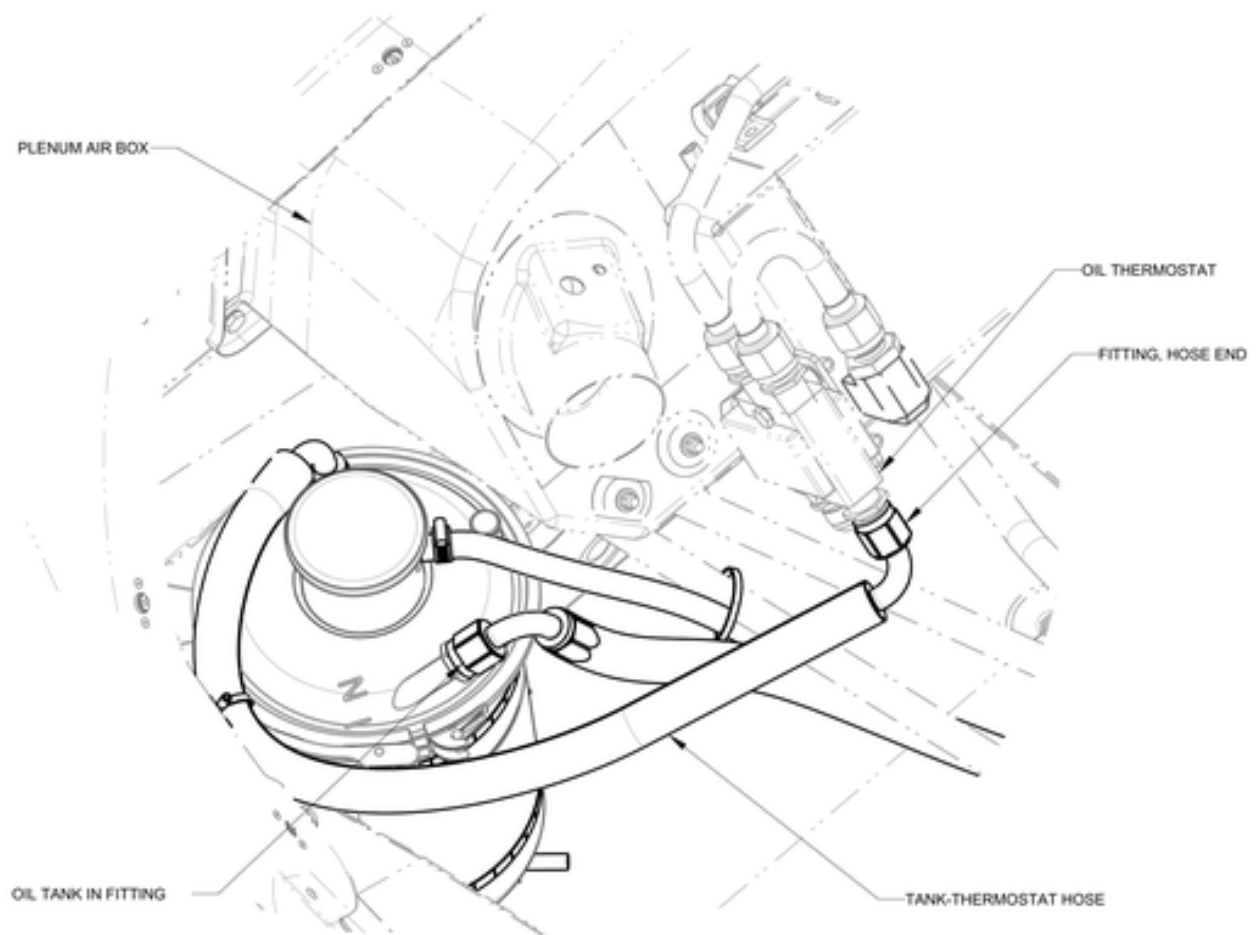

FIGURE 17-44
4. Use a 3/4 wrench to hold tank IN fitting while using a 7/8 wrench to loosen IN line fitting. Remove the oil return (engine-tank) hose from the oil tank. Cap openings. (See Figure 17-44.)
5. Use a 13/16 wrench to hold the union fitting in the thermostat and a 7/8 wrench to turn the B-nut to remove the tank-thermostat hose shown in Figure 17-44.
1. Secure the oil tank to the oil tank mount in the orientation shown in Figure 17-44 using 2X CLAMP, WORM DRIVE. Torque to 25-30 in-lbs.